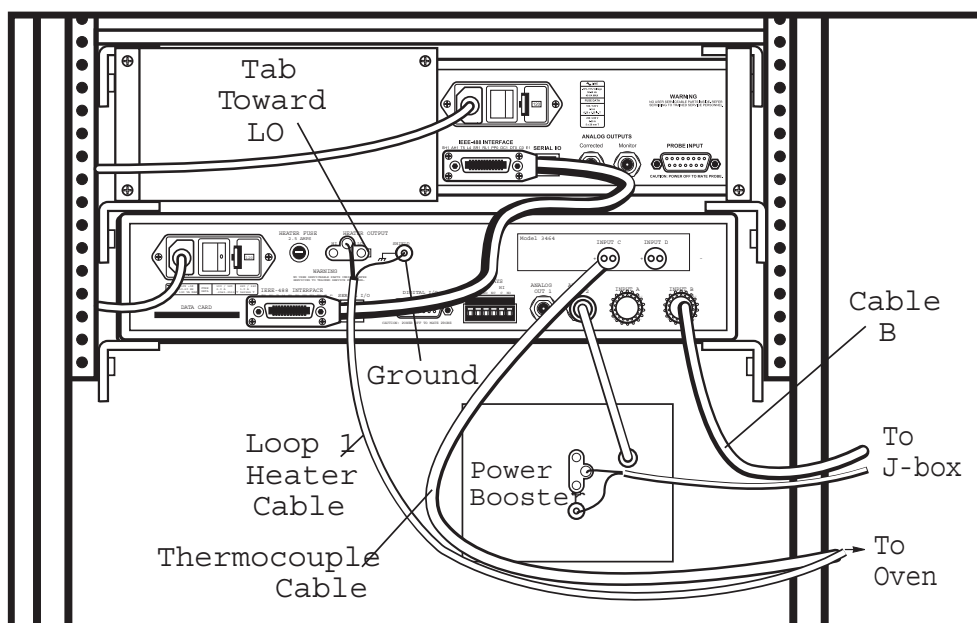

Figure 4-31. Typical Model 340 Connections to the Model 75016 OSM
1. Connect all cables listed in Table 4-23. (See Figure 4-31.)